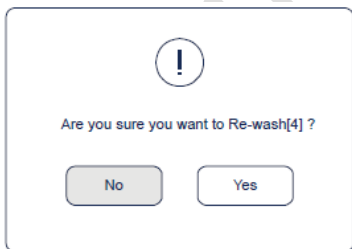

Figure 7-6 : Maintenance wash end interface
- When the interface appears as Figure 7-6, the maintenance wash ends.